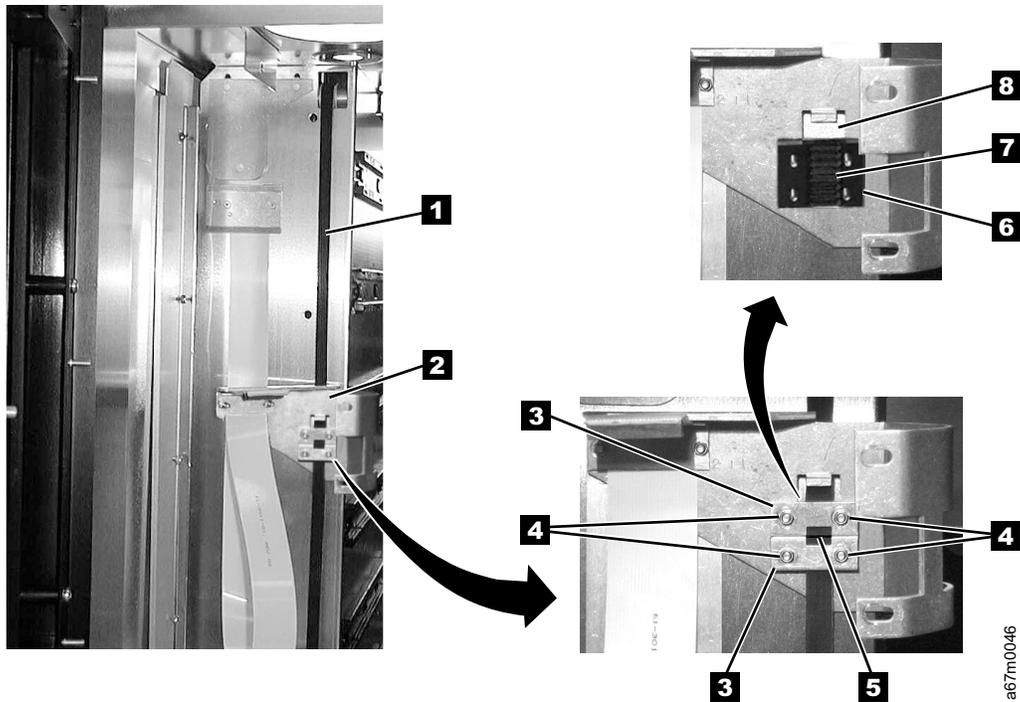

Figure 7-14. Removing the belt clamps
14. See Figure 7-14 on page 7-18 for this step. Pay particular attention to the clearance between two ends of the belt **5** at the belt clamps before proceeding. You will need to maintain same clearance between ends of the new belt. The plastic belt retainer **7** behind belt clamps **3** can fall off when you remove the four belt clamp nuts. Be careful to save these belt clamps and retainer which will be needed to maintain alignment of the new belt when installed. Remove four belt clamp nuts **4** by using 3/16 in. nut driver.